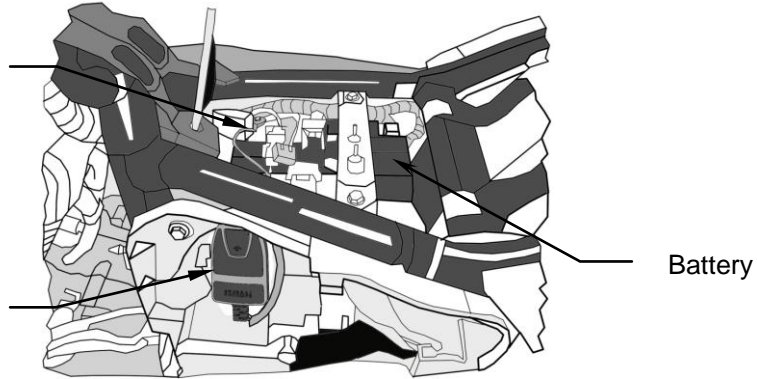
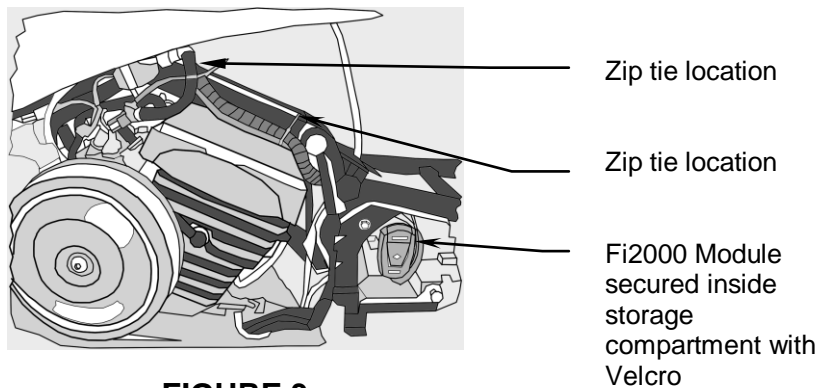

FIGURE 1
FIGURE 3
1. Remove both seats and fuel tank console cover. Remove the one front and two rear bolts securing the fuel tank. To enable raising the fuel tank, disconnect the wire connectors mounted on top of the battery behind the fuel tank, they are connected with two harnesses running under the left side of the fuel tank, (Fig. 1).
3. Position the Fi2000 in the left hand storage area and feed the wire harness through the oval hole in the back of this case, (Fig. 1). Next, feed the harness through the frame opening behind the rear cylinder and follow the bike's wire harness towards the front of the engine.
5. Zip tie the Fi2000 along the bike's main harness as shown in, (Fig. 3). Attach the black ground wire from the Fi2000 to the negative post of the battery. Secure the Fi2000 body to the inside of the storage box with the Velcro strip, (Fig. 1).